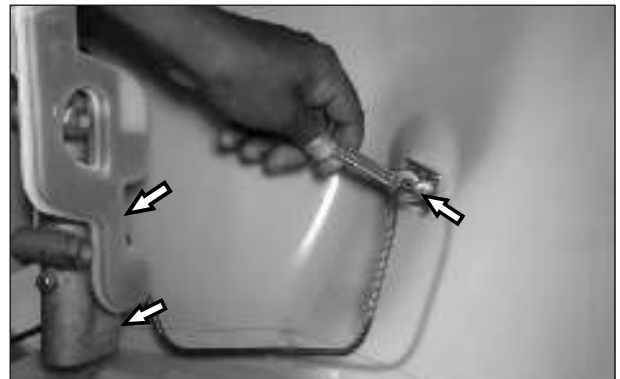

Fig. 5.57
- Loosen and remove bundy tube assembly front and bundy assembly center from master cylinder assembly. (Fig. 5.57)